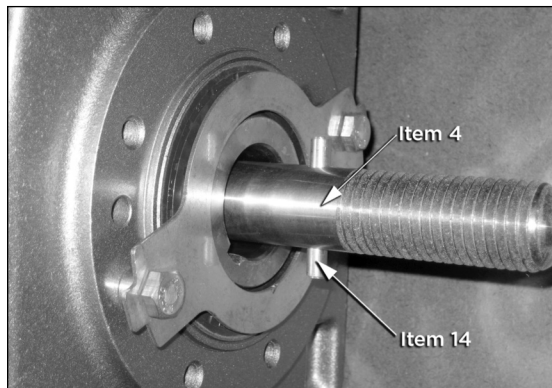

Figure 12
11. Insert the pin (item 14) into the hole in the side of the threaded end of the shaft. Slide the nylon spacer (item 13) over the shaft and pin to hold the pin in this position. See Figures 12 and 13.